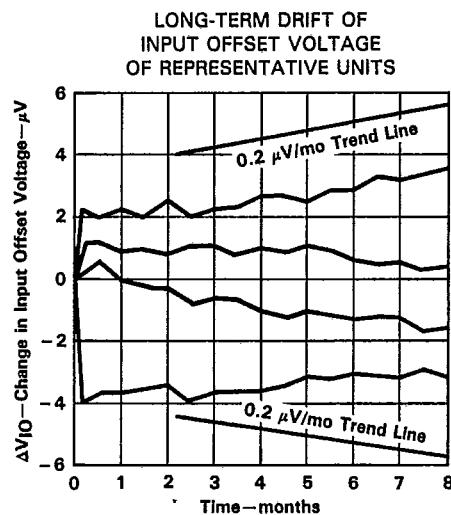

FIGURE 3
4. Long-term drift of input offset voltage refers to the average trend line of offset voltage versus time over extended periods after the first 30 days of operation. Excluding the initial hour of operation, changes in V_{IO} during the first 30 days are typically $2.5 \mu\text{V}$. See Figure 3.